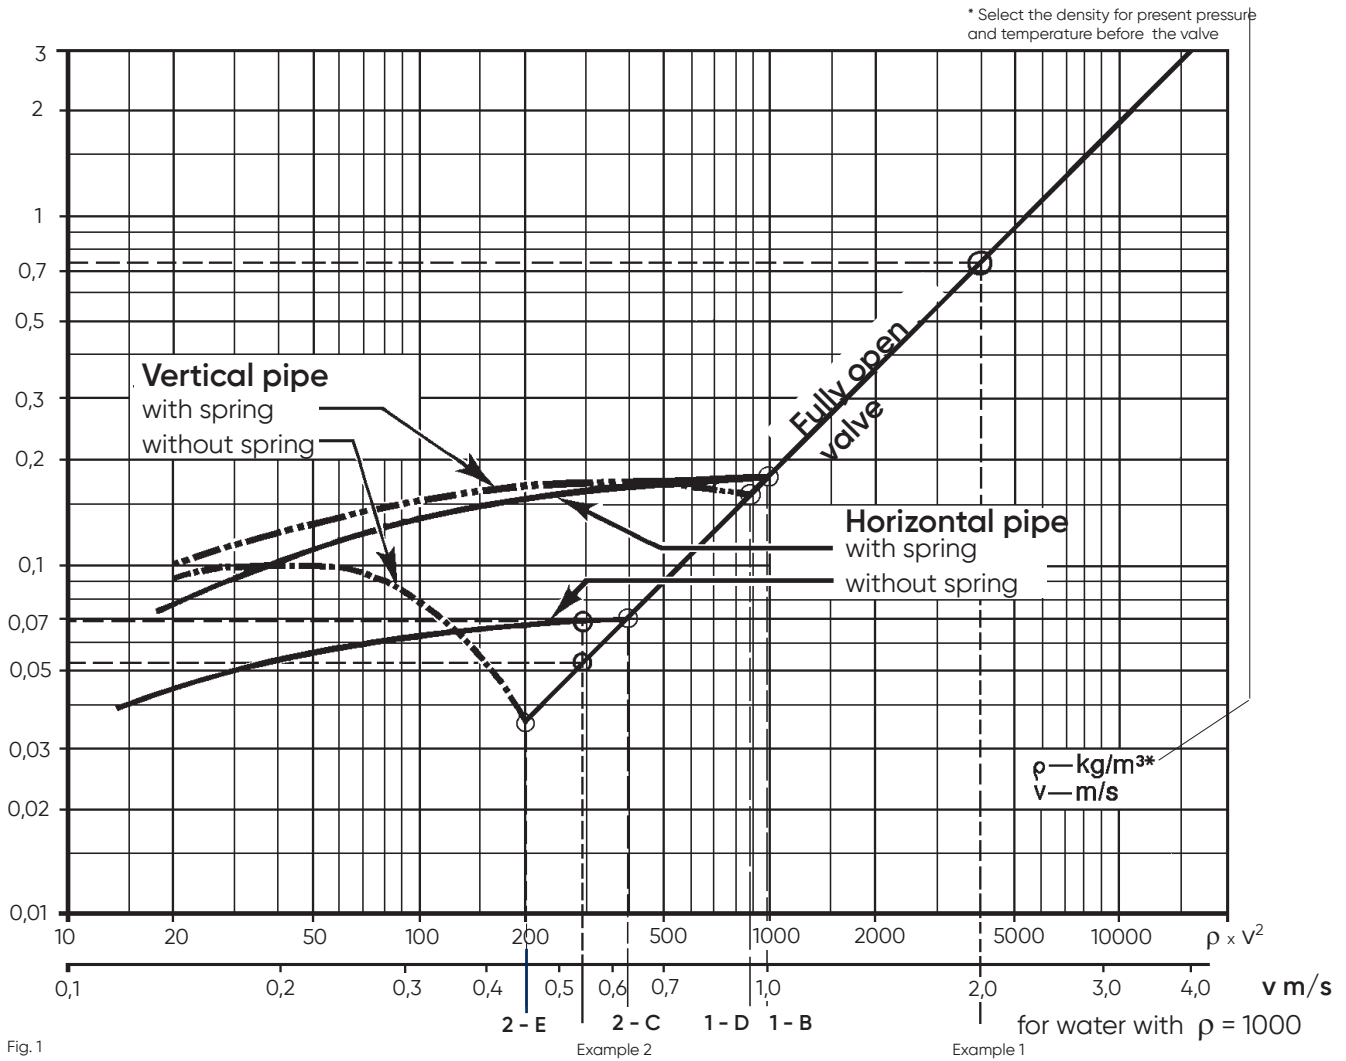

Fig.1
The dynamic opening force on the disc depends on density of the medium and flow velocity in the pipe. Use the diagram in fig. 1. Set the value of ρv^2 on the horizontal axis and check the curves.
The curves in fig. 1 represent sizes up to DN 250. The pressure drop is lower for larger sizes. Reduce the diagram pressure drop values with following factors:
A. Before the valve is fully open, the pressure drop across it exceeds the value shown - see fig. 1.
- 2.** Low-pressure gases. The opening dynamic force is affected by density. Make certain that velocity and density are adequate to open the valve - fig. 1.